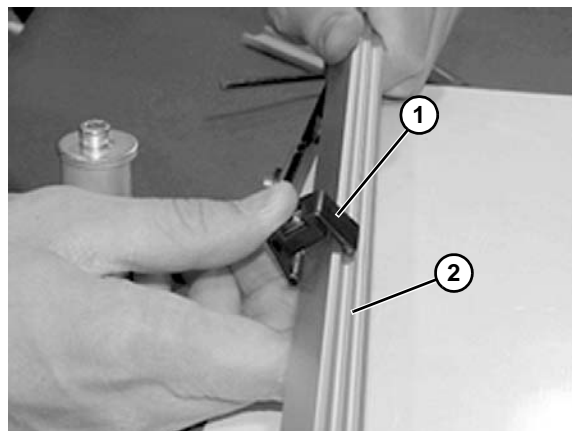

Figure 81
4. Snap clip (**Figure 81, item 1**) onto guide rail (**Figure 81, item 2**).